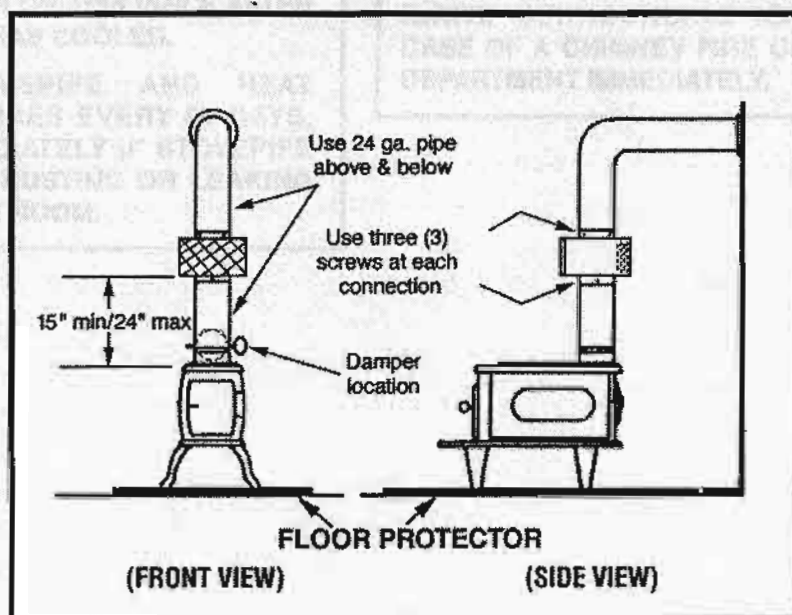

Figure 2
1. The installation of this unit must comply with your local building code rulings. Please observe the clearances to combustibles (see figure 2).
2. If you have determined your chimney to have an inadequate draft, overcome that deficiency before installing your Heat Reclaimer. Your chimney should be capable of developing at least 0.06 w.c. (measured in water column) draft before installing a Heat Reclaimer. After installation, the chimney should develop at least 0.045 w.c. as measured below the Heat Reclaimer. All stove pipe above or below your Heat Reclaimer must be 24-gauge or heavier to provide adequate support. Any horizontal run of pipe must pitch upward toward the chimney at least 1/4" per foot of horizontal run. All stove pipe and/or elbow joints must be secured by at least **three (3)** sheet-metal screws.
10. The Heat Reclaimer should be installed as close to the flue outlet as possible, but no closer than 15" from the top or back as shown in figure 2.
12. Use at least **three (3)** sheet metal screws at each connection to secure the Heat Reclaimer to the flue pipe.